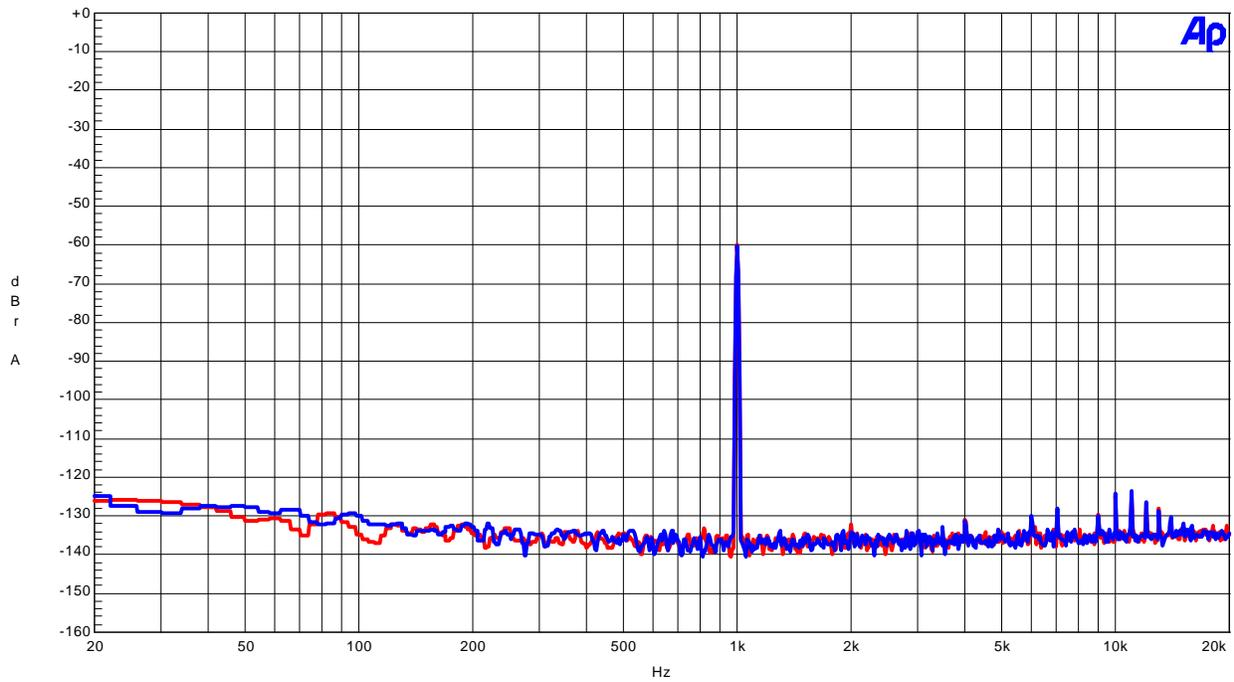

Figure 7 . FFT (1kHz, -60dBFS input)
- Figure 7. FFT (1kHz, -60dBFS input)